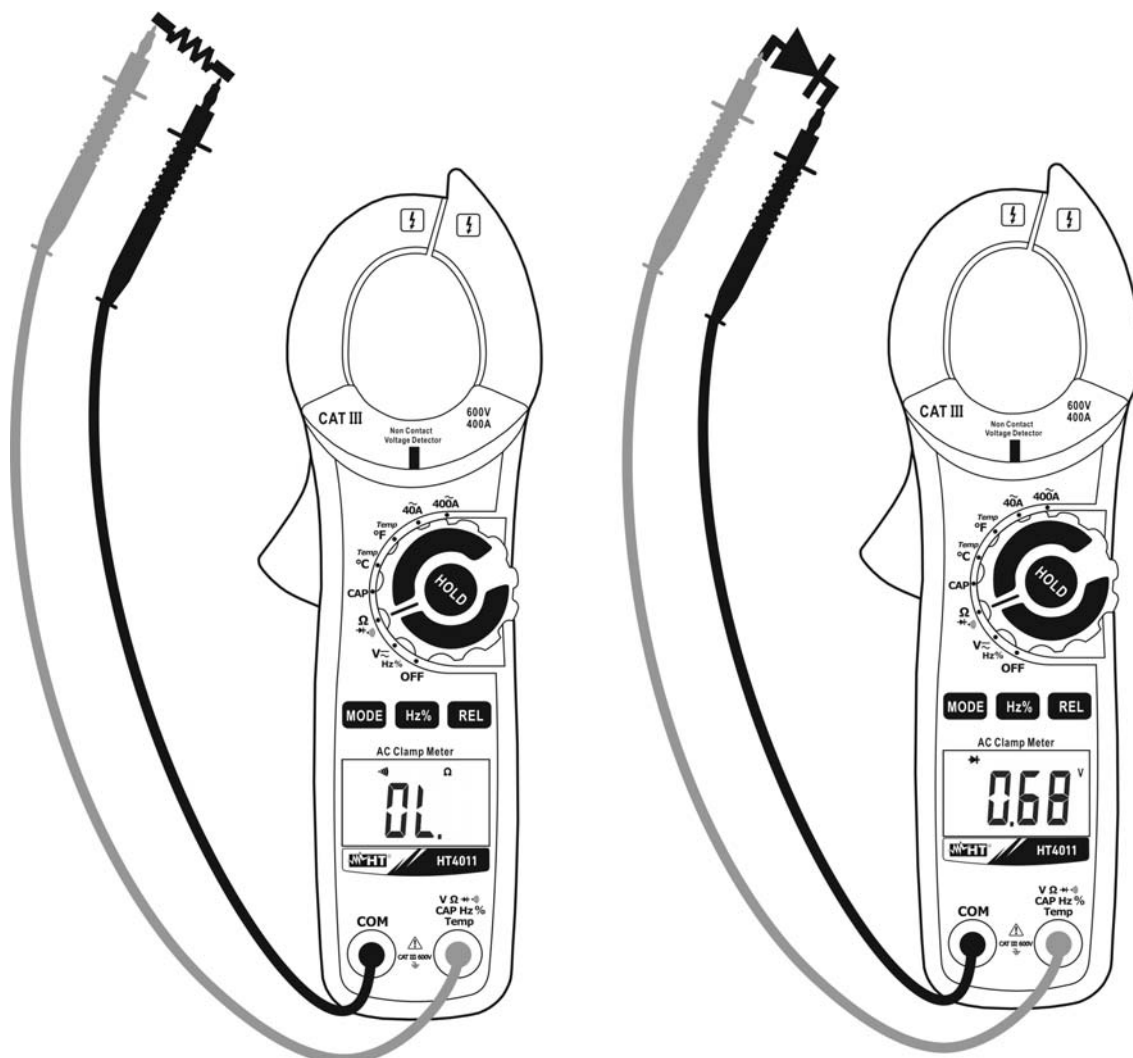

Fig. 7: Use of the clamp for continuity test and diode test
3. Insert the red cable into input terminal **VΩ $\rightarrow$ HzCAPHz%Temp** and the black cable into input terminal **COM** and carry out the continuity test of the object to be measured (see Fig. 7– left side). An buzzer sounds when the measured value of resistance is lower than 30Ω
5. Connect the red lead to the anode of the diode and the black lead to the cathode in case direct polarization measurement is carried out (see Fig. 7 – right side). Invert the position of the leads in case reverse polarization measurement is carried out.